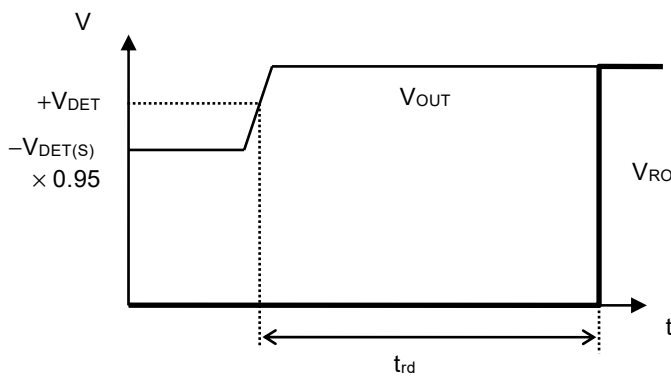

Figure 5 Release Delay Time
- \*3. The time from when VOUT exceeds +VDET to when the RO pin output inverts (Refer to **Figure 5**). This value changes according to the release delay time and monitoring time adjustment capacitor (CDLY).